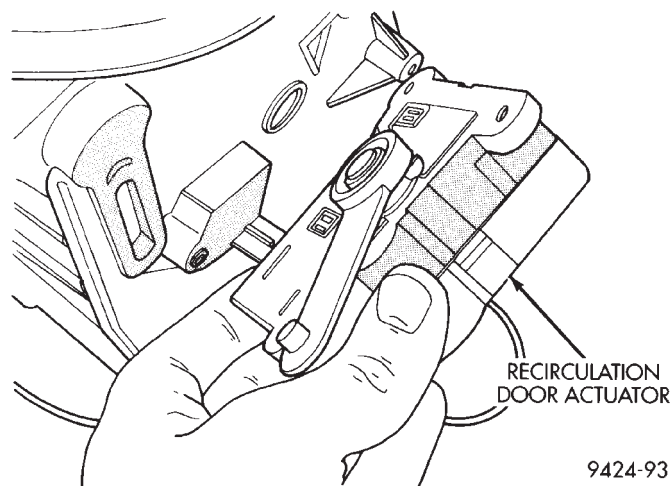

Fig. 39 Recirculation Door Actuator
- (2) Remove heater housing from vehicle. Refer to Heater-A/C Housing Removal and Installation in this section for procedure.
- (3) Remove recirculation door actuator (Fig. 39).